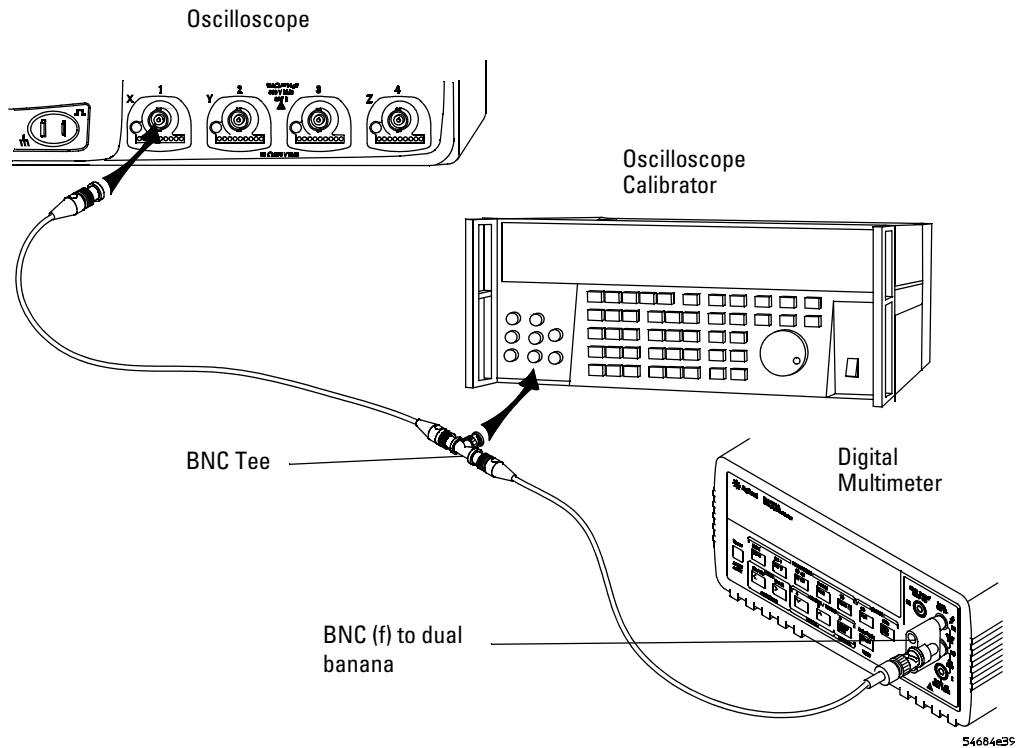

Figure 1 Connect equipment for voltage measurement accuracy test
- 3** Use the BNC tee and cables to connect the oscilloscope calibrator to both the oscilloscope and the multimeter (see Figure 1).